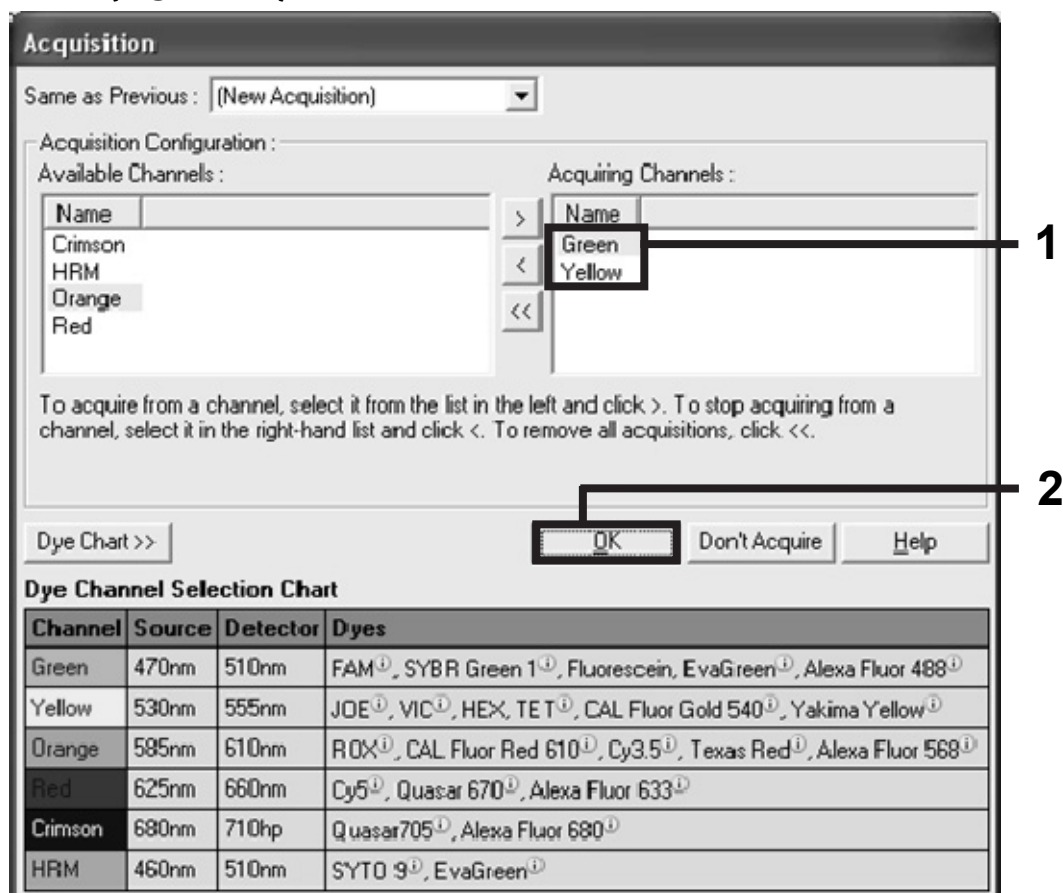

Figure 22. Acquiring at cycling step of 60°C.
Adjusting the fluorescence channels	Figures 22–26
11. Set **Green** and **Yellow** as acquiring channels by selecting the “>” button to transfer these from the “Available Channels” list. Click “OK” (Figure 22).